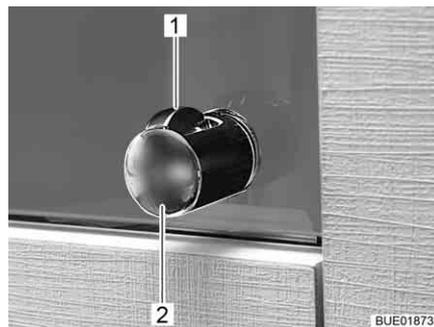

Fig. 44 Handle with release knob
- Press the release knob (Fig. 44,1) and hold it down.
- Pull the handle (Fig. 44,2) until the furniture flap is open.